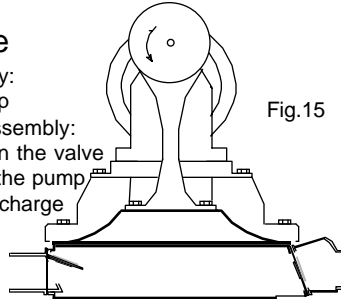

Fig.15
- Raising the diaphragm creates a vacuum. See Fig.15